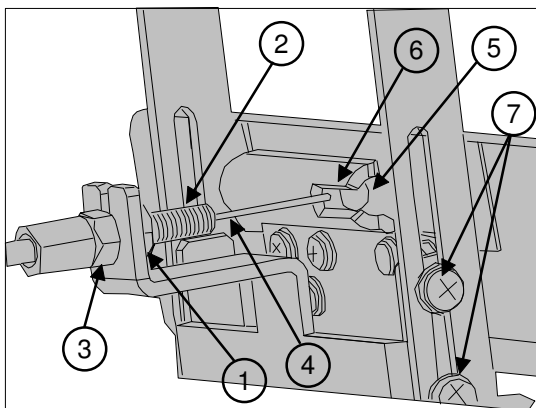
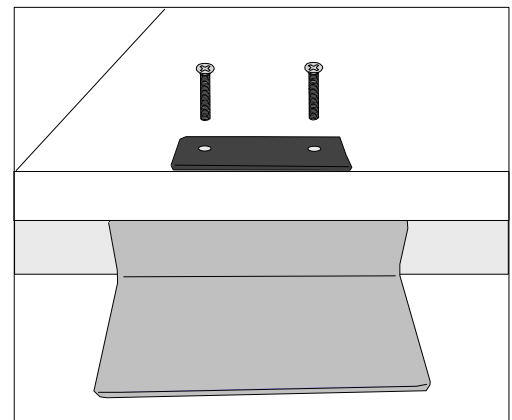

FIG. 2
FIG. 4
Unscrew the front nut (1) on the valve cable and insert the cable (4) through the slot on the back side of support bracket AG250-103 pedal. The rear nut (3) remains at the end of the thread (2). Adjust cable holder (2) for proper pedal operation and secure its position with nuts (1) and (3). Control cable (4) should be snug. (FIG. 2)
Insert valve cable end T-bar (5) into the pedal lever (6). (FIG. 2)
3. Use provided #10 screws to attach the pedal. (FIG.4) Pedal position can be adjusted using four screws (7) on side of pedal assembly. (FIG. 2)